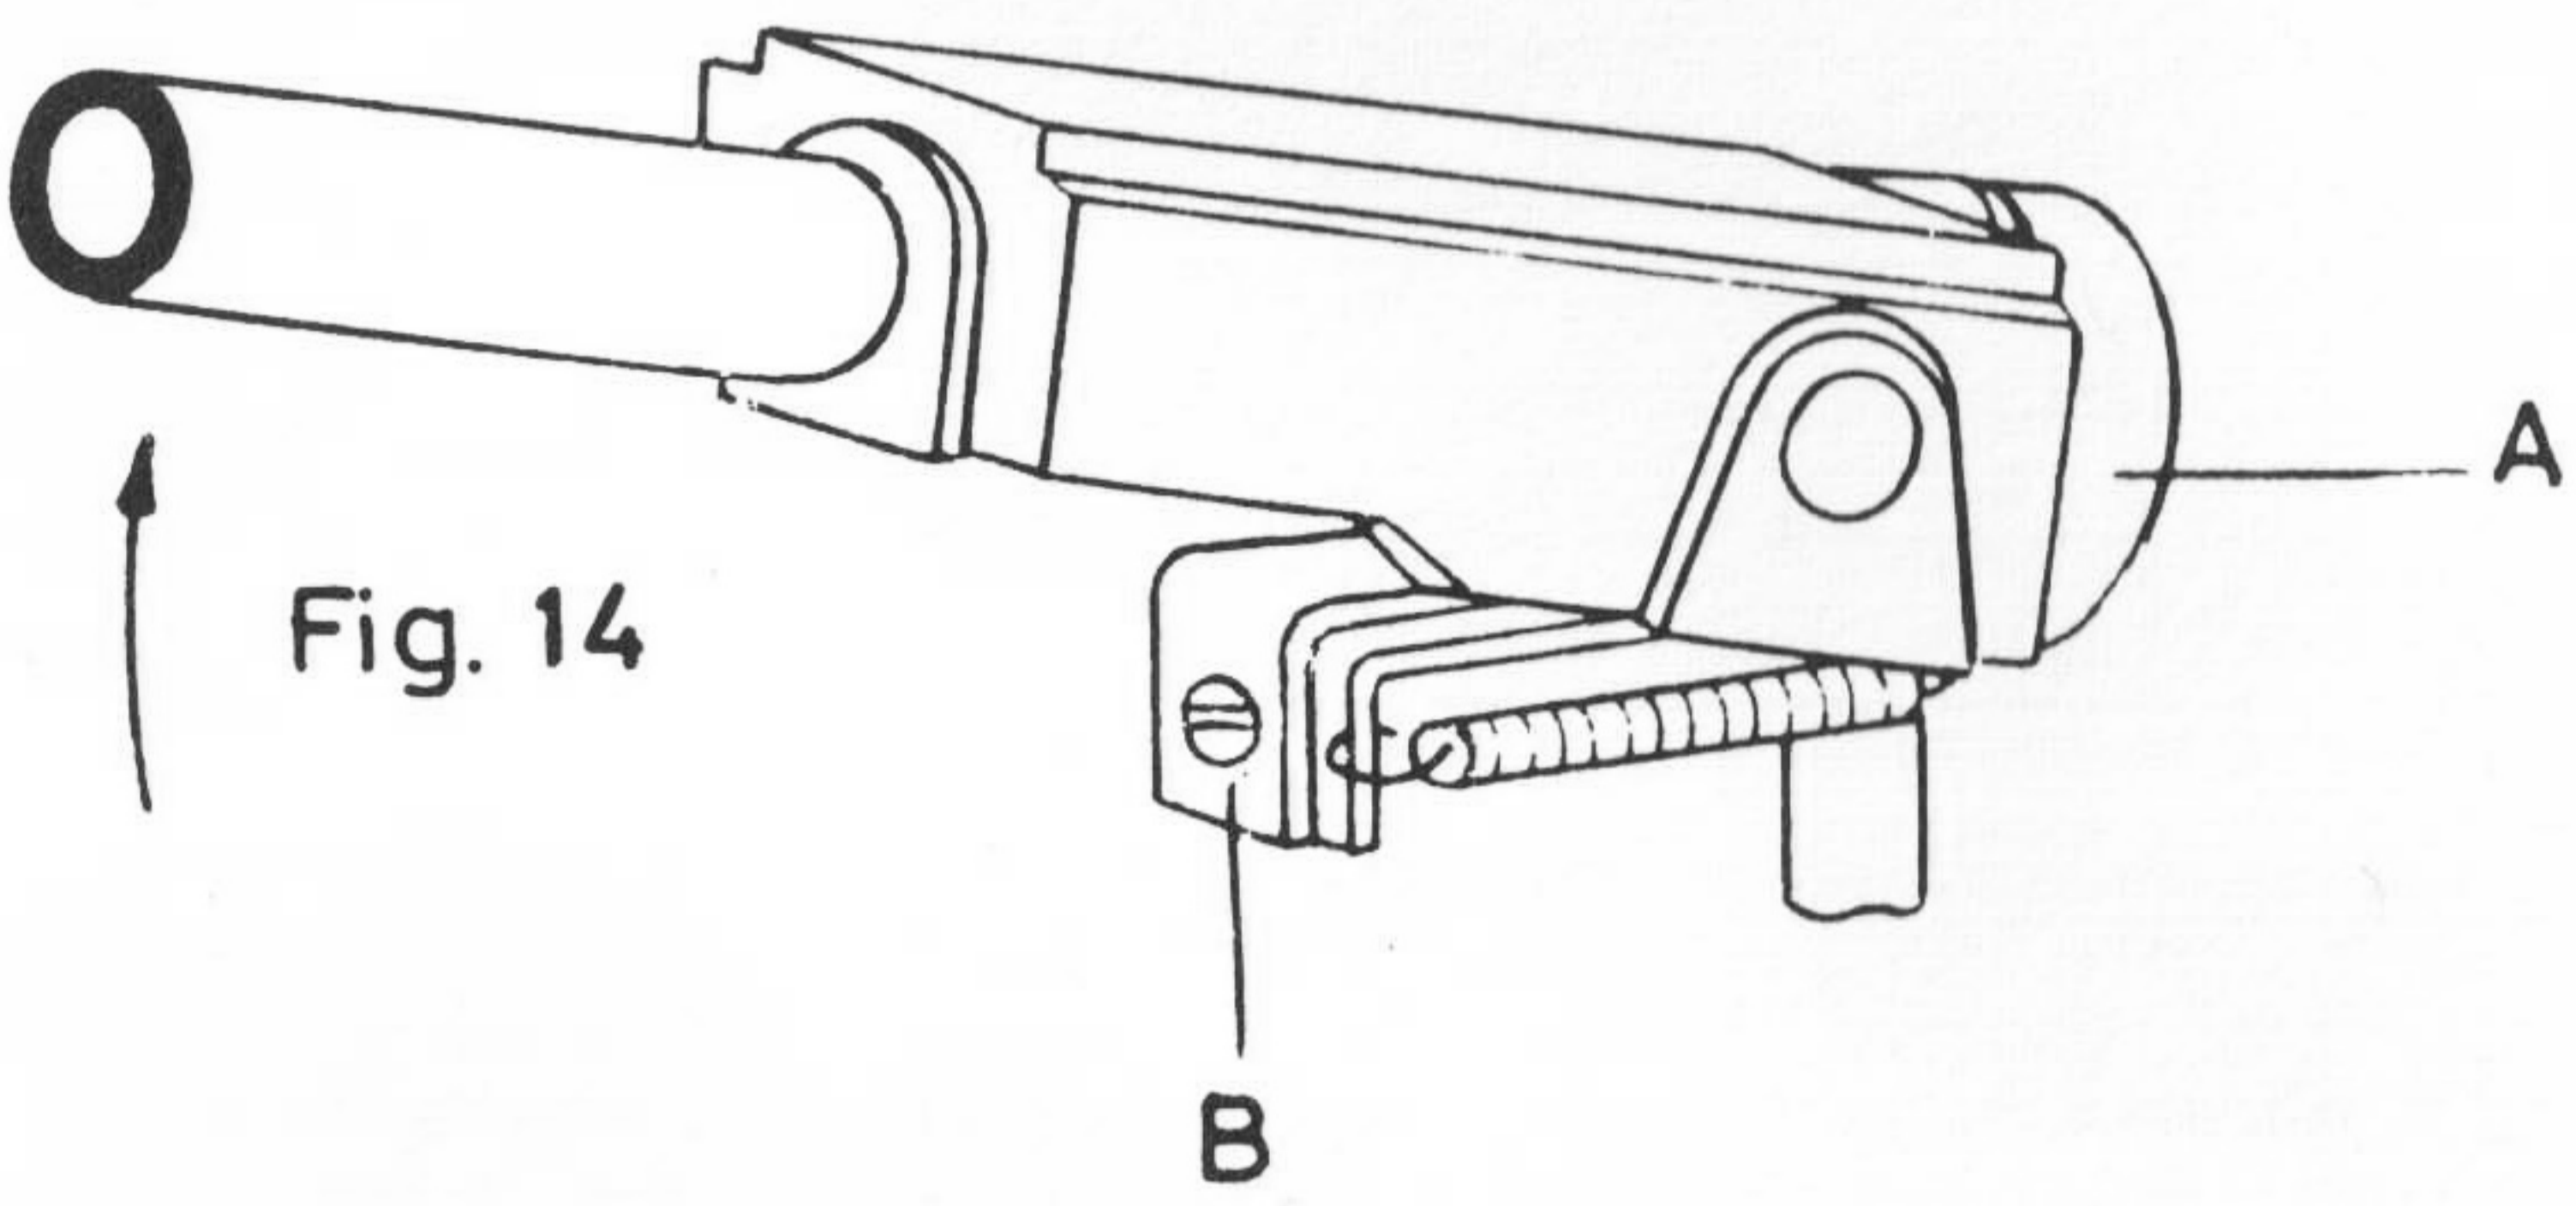
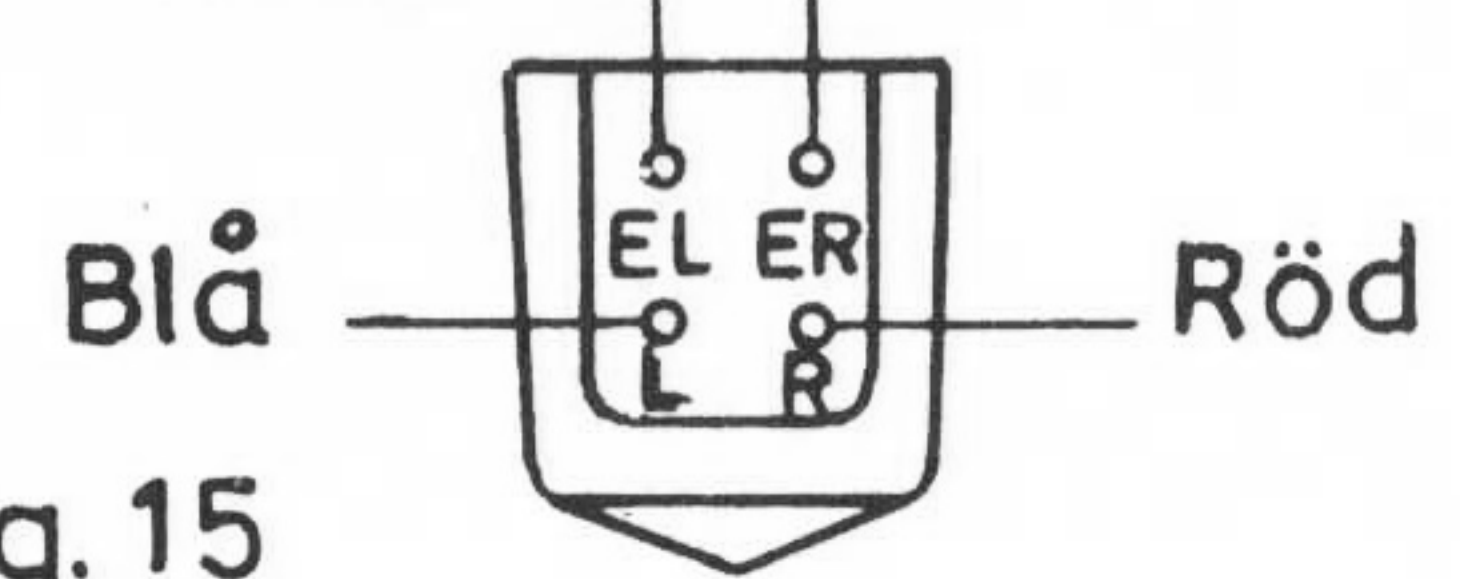

Fig. 14
Fig. 15
OBS! DE HORISONTELLA LAGREN BESTÅR AV ÄDELSTEN, OCH FÖRSIKTIGHET SKALL IAKTTAGAS OM LAGREN SKULLE BEHÖVAS JUSTERAS INÅT. VID SÅDAN JUSTERING TAG BORT FJÄDRARNA OCH KÄNN EFTER ATT ETT ABSOLUT MINIMUM AV GLAPP FINNS. DÄREFTER LÅSET DET LAGER SOM JUSTERATS MED LÅSLACK. NÅLTRYCKSKRAFTEN JUSTERAS MED SKRUVEN (B) FIG. 14.
SEDAN TONARMEN LOSSATS FRÅN SITT BAKRE FÄSTE GENOM UTSKRUVNING AV SKRUVEN (A) FIG. 14, INKOPPLAS NÅLMIKROFONEN I ENLIGHET MED FIG. 15 OCH FASTSKRUVAS, VAREFTER TONARMEN ÅTER FASTSÄTTES.
NÅLTRYCKSKRAFTEN 4 POND INSTÄLLES DÄREFTER MED SKRUVEN (B) FIG. 14 OCH AVLÄSES PÅ EN INDIKATORKLOCKA I DET ÖGONBLICK DÅ KONTAKTEN MED SKIVSPÅRET UPPHÖR. (MÄRKS BÄST UNDER SPELNING).